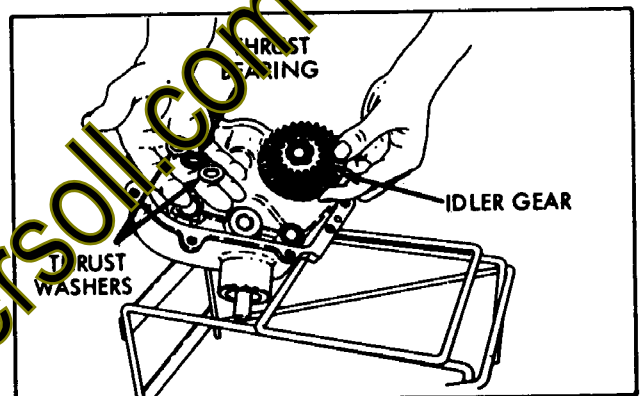

Figure 2-8
- Lift idler gear assembly out of case. (Fig. 2-8).
NOTE: For sequence of thrust washers and bearings, see Figure 2-8.
- Set case assembly open side up. Insert the idler shaft gear assembly, thrust washers and bearing. Note sequence of washers and bearings (Fig. 2-8).